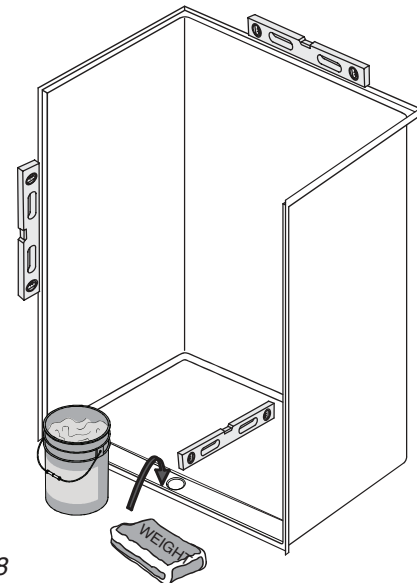

Figure 8
- 7** Place 50 pounds of weight over the drain area, as shown in Figure 8 to ensure that the unit is making contact with the epoxy.